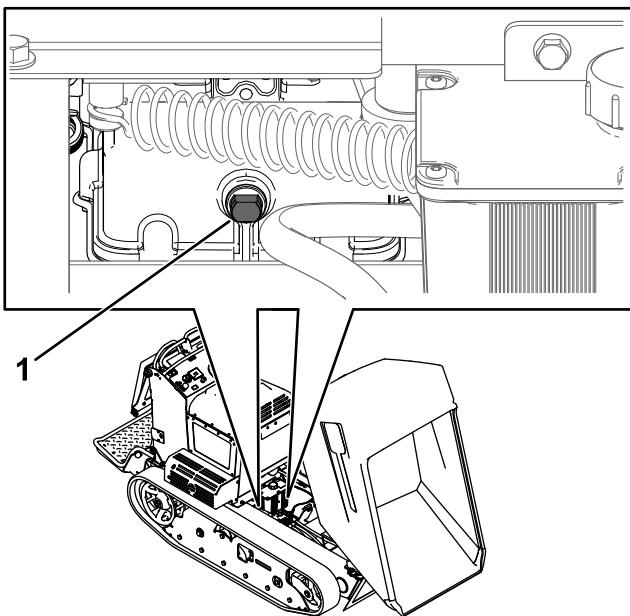
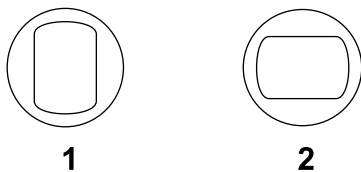

Figure 14
Figure 15
3. Using a wrench, turn the bypass valve on the left and right transaxles so that the flat sides of the valve face left and right (Tow position) as shown in Figure 14 and Figure 15.
5. After repairing the machine, turn the bypass valves so that the flat sides face up and down (Drive position) as shown in Figure 15.